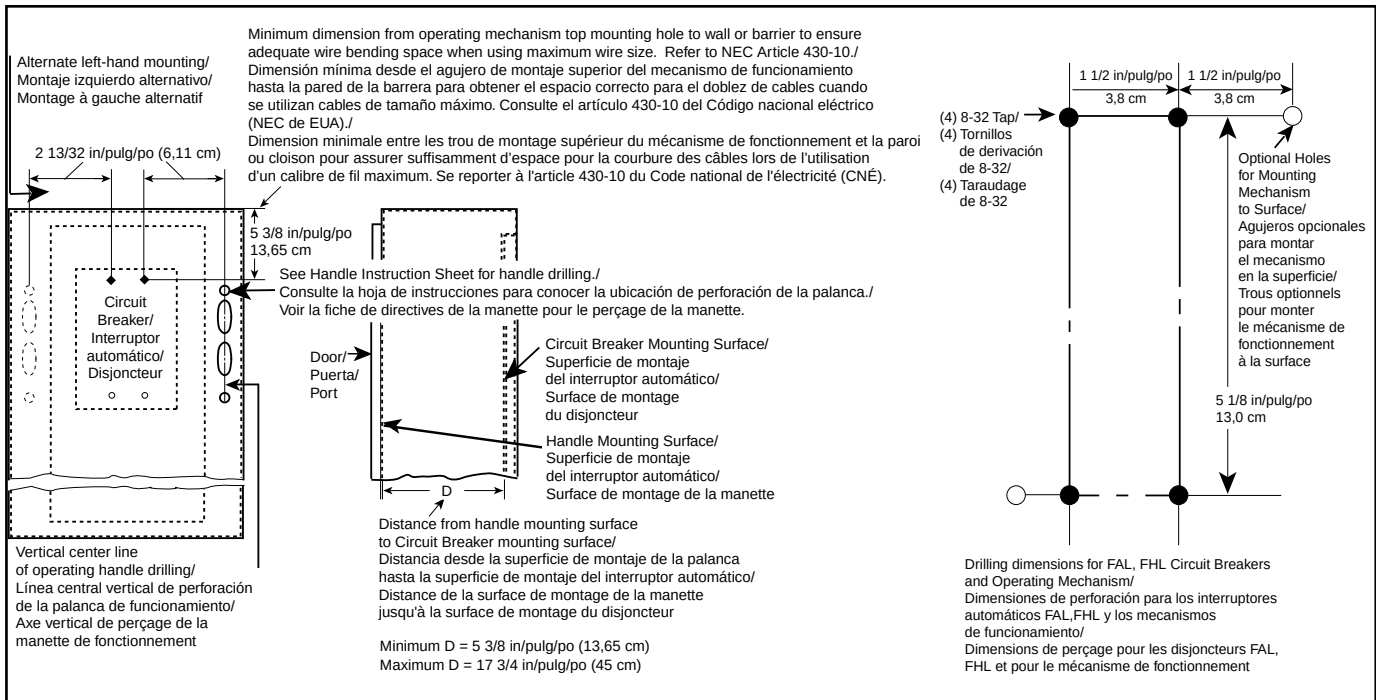

Figure 2 / Figura 2 / Figure 2: Location and Drilling of Panel Mounting Holes /
2. See Figure 2 on page 5 for location and drilling of panel mounting holes.
3. Cut operating rod (item 1) to length L where $L = D - 2 \frac{1}{4}$ in (5.72 cm).
4. Thread operating rod into drive pin (item 2) TEN full turns.
5. Attach adhesive backed vinyl mask (item 3) over "ON-OFF" markings on circuit breaker.
6. Slide liner (item 4) into the operating mechanism. Align liner with mounting holes. **Make sure the liner overhangs the top of the operating mechanism $1 \frac{3}{4}$ in (4.44 cm); if it does not, the liner is upside down and must be repositioned.** The liner must wrap around the circuit breaker.
2. Voir la figure 2 à la page 5, pour obtenir l'emplacement et le perçage des trous de montage du panneau.